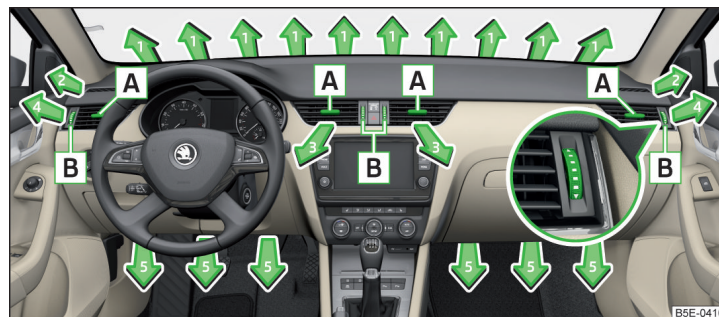
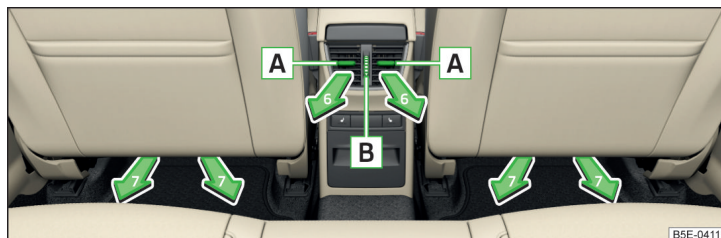

Fig. 119 Air vents at the front
Fig. 120 Air vents at the rear
The direction of airflow can be adjusted using the air outlet vents **3, 4** » Fig. 119 and **6** » Fig. 120 - the outlets can be opened and closed individually.
- To change the height of the air flow, swivel the horizontal fins with the movable adjuster **A** » Fig. 119 or » Fig. 120 upward or downward.
- To change the lateral direction of the air flow, turn the vertical fins with the movable adjuster **A** » Fig. 119 or » Fig. 120 to the left or right.
- Turn the regulator **B** » Fig. 119 or » Fig. 120 upwards or downwards.
Setting the direction of the air outlet	Active air outlet nozzles » Fig. 119 and » Fig. 120